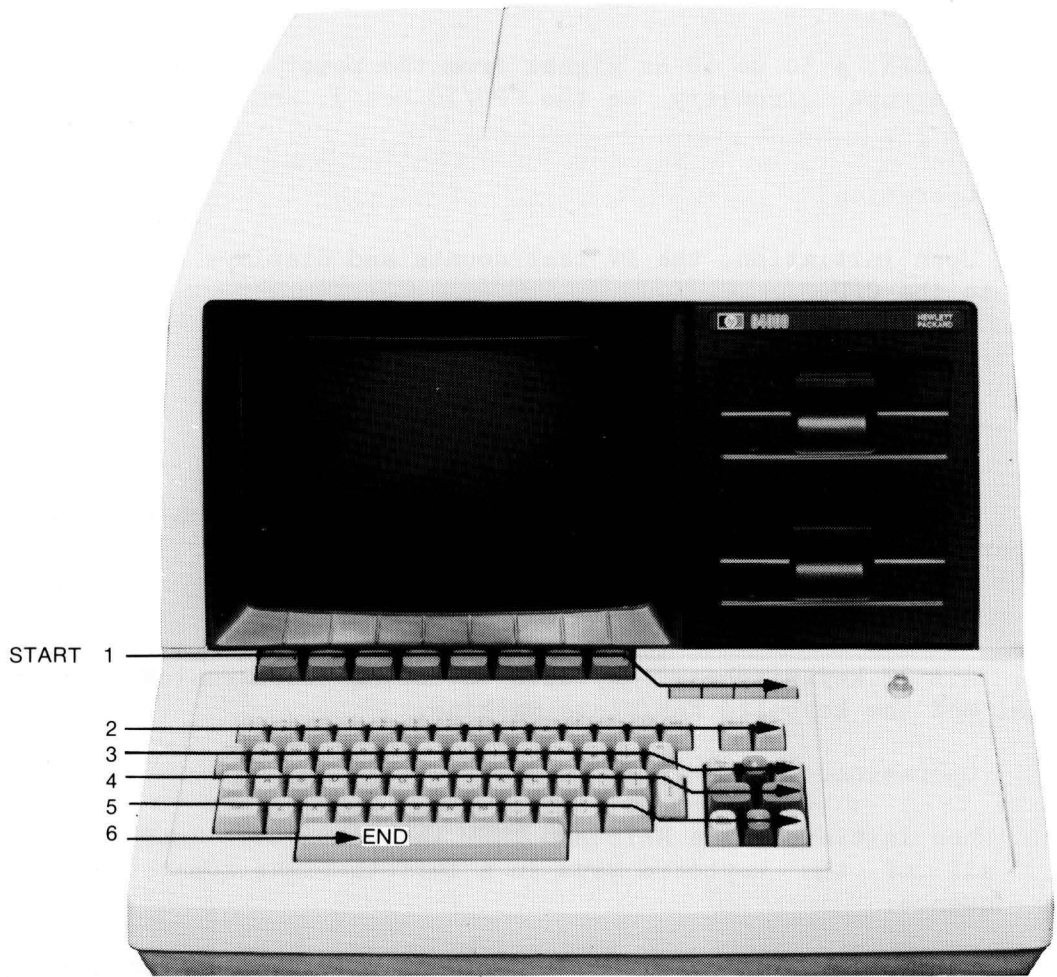

Figure 4-4. Keyboard Test, Key Sequence
- d. The order in which the keys are pressed is given in figure 4-4.